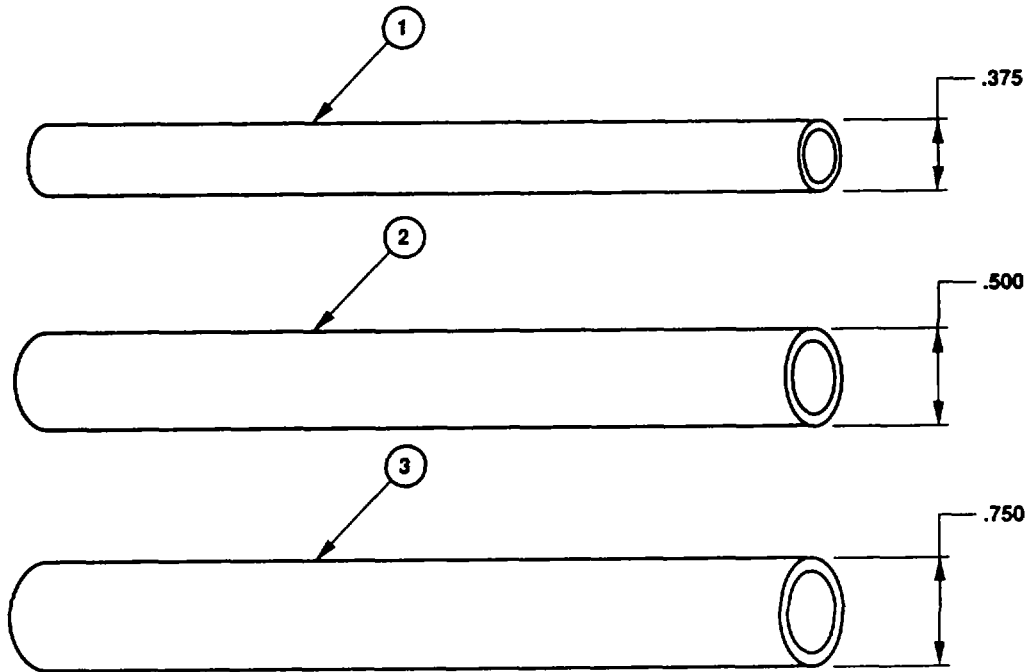

Figure F-11. Condenser Tubing.
- a. Identify proper size tubing (Figure F-11), in Table F-18.